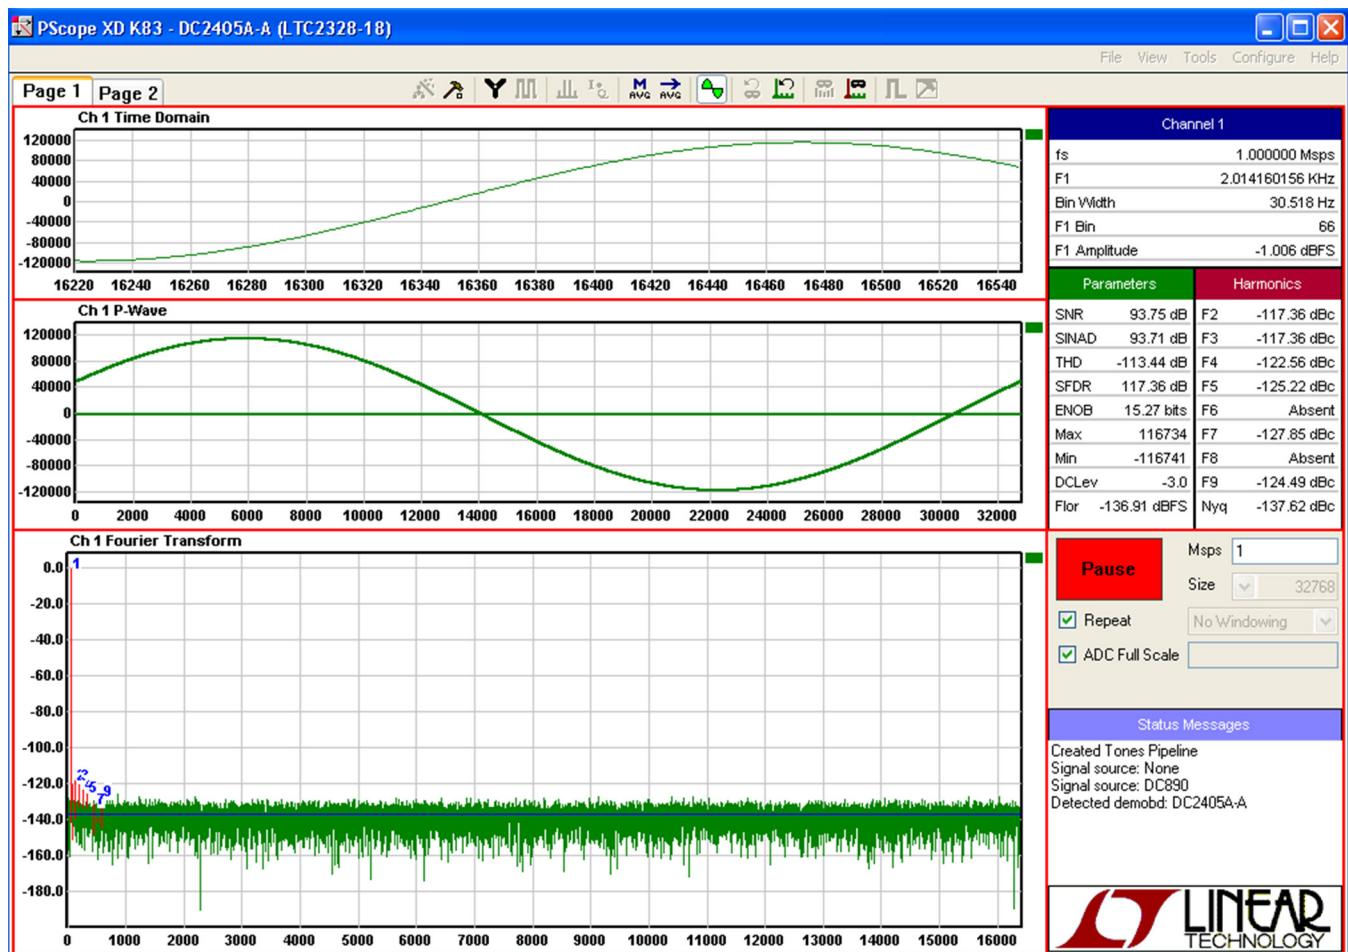

Figure 2. PScope Display Capturing 2kHz Input Tone
7. Click the Collect button (see Figure 2) to begin acquiring data. The Collect button then changes to Pause, which can be clicked to stop data acquisition.
The DC2405A analog input AIN is a single-ended input referenced to GND2. AIN has a high input impedance buffer (LT1468) before the LTC2328-18 ADC. The default setup for the DC2405A requires that AIN be driven with a low noise, low distortion generator for SINAD, THD, or SNR testing. Use an analog source such as the Stanford Research DS360 or SR1. Synchronize the clock source to the analog source through an external reference input to generate SNR and SINAD results similar to Figure 2 without windowing.
This demo board is tested in-house by attempting to duplicate the FFT plot shown in Figure 2. This involves a 100MHz clock source synchronized with a reference clock to an SR1 sinusoidal generator. The SR1 sinusoidal generator is set at a frequency of 2.01416kHz. The input signal level is approximately –1dBFS. A typical FFT obtained with DC2405A is shown in Figure 2. Note that to calculate the real SNR, the signal level (F1 amplitude = –1.006dB) has to be added back to the SNR that PScope displays. With the example shown in Figure 2, this means that the actual SNR would be 94.76dB instead of the 93.76dB that PScope displays.